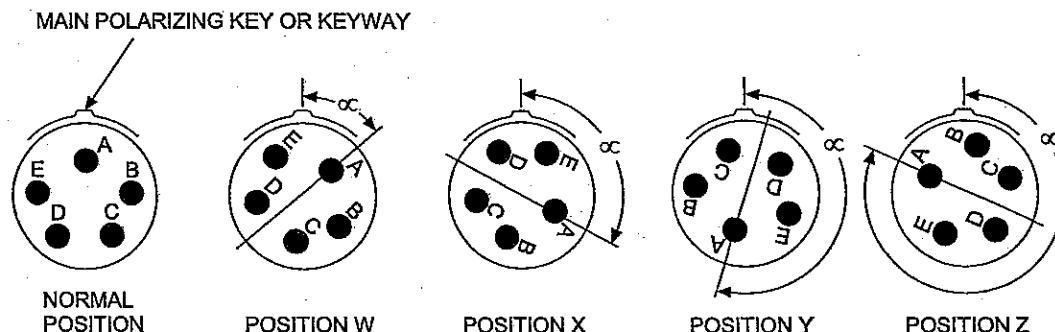

Fig 2 - Insert orientations
5.1 In the orientations shown in Fig 2, the pin-type insert is rotated clockwise relative to the main polarizing key or keyway, whilst the mating socket-type insert is rotated counter-clockwise the same number of degrees relative to the main polarizing key or keyway.